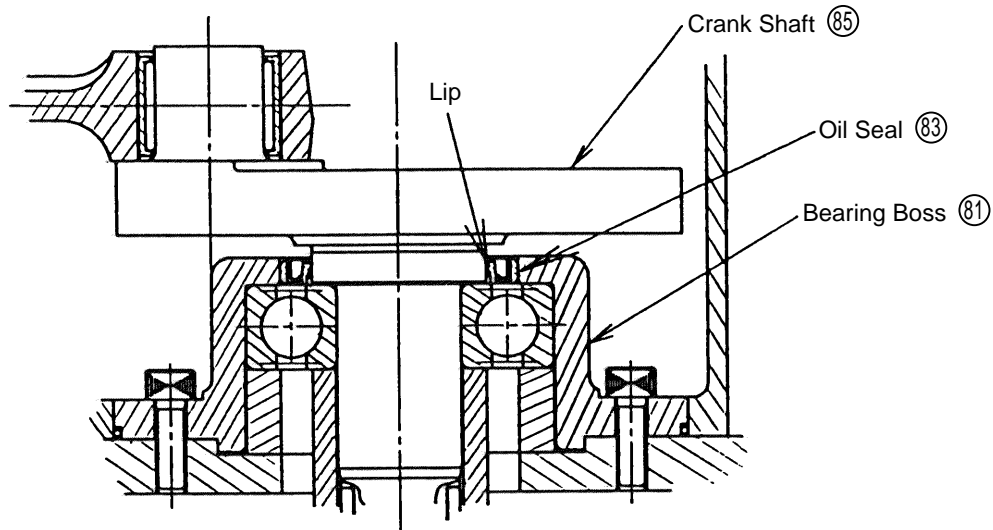

Fig. 12
A. Mounting of the Oil Seal (83):
As illustrated in Fig. 12, the lip side of the Oil Seal (83) must be facing in the same direction in which the Crank Shaft (85) is assembled.